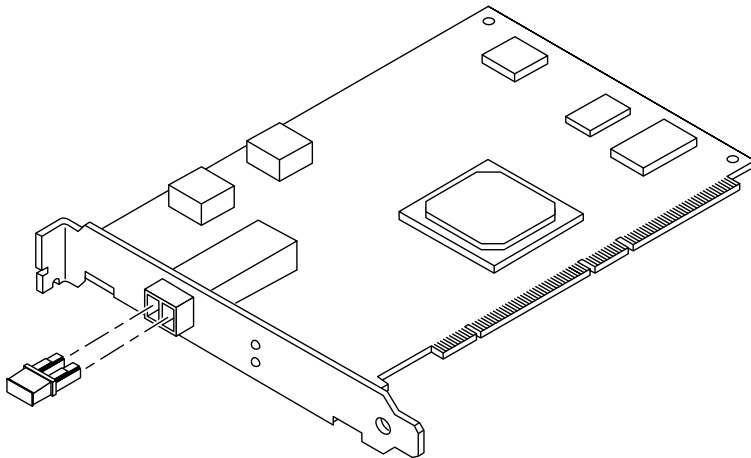

FIGURE 1-3 Sun StorEdge PCI Single 2G Fibre Channel Network Adapter Dust Covers
1. Pull the dust cover out of the 2 x 5 optical transceiver (OT) connector (FIGURE 1-3).